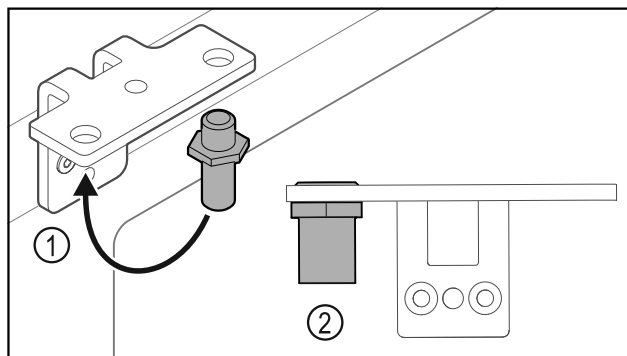

Fig. 37
- Put the pin back into the hinge Fig. 37 (1).
- Tighten the pin Fig. 37 (2) to a **torque of 12 Nm (9 ft-lb)**.